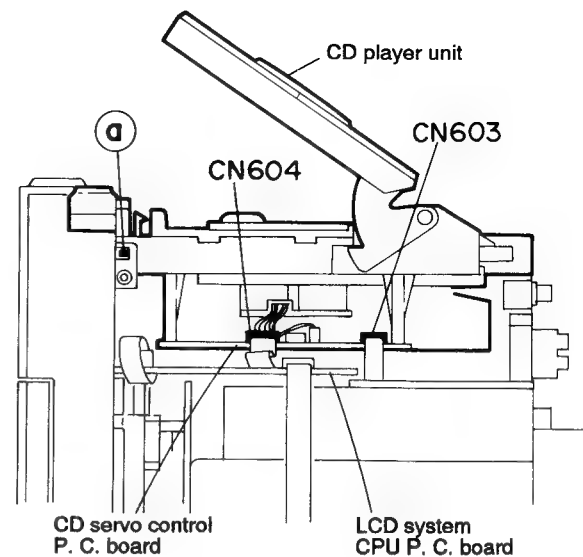

Fig. 5-7
(See Figs. 5-7 and 5-8)
3. From the connector CN603 on the CD servo control P. C. board, disconnect the card wire outgoing from the connector CN304 on the power amplifier P. C. board (See Fig. 5-7).
4. Disengage the left and right engagements ① and ② fixing the CD player unit by using a minus screw driver, etc. (See Figs. 5-7 and 5-8).